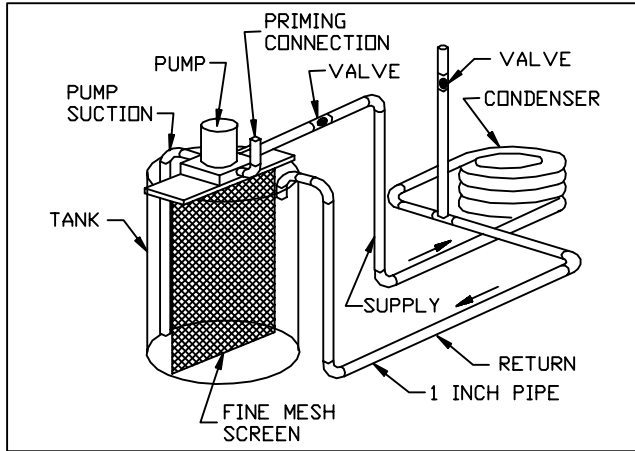

Figure 10 Forced Circulation Method
- Fill system as shown in Figure 10. Follow acid manufacturer's instructions. Fully open vent pipe when filling system. The vent may be closed when system is full and pump is operating.